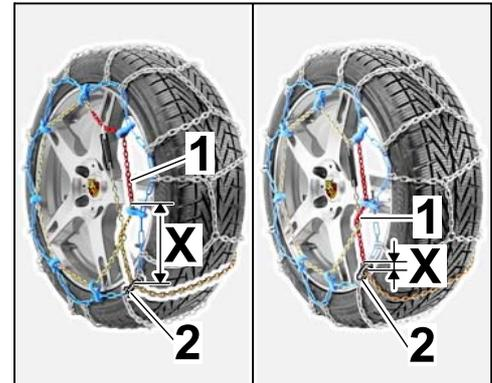

Figure 12
- The area marked in red on the tensioning chain must be pulled completely through the slot on the locking plate. The distance between the area marked in red and the slot on the locking plate (dimension X ⇒ *Figure 12-X*.) can vary depending on the tyre size.